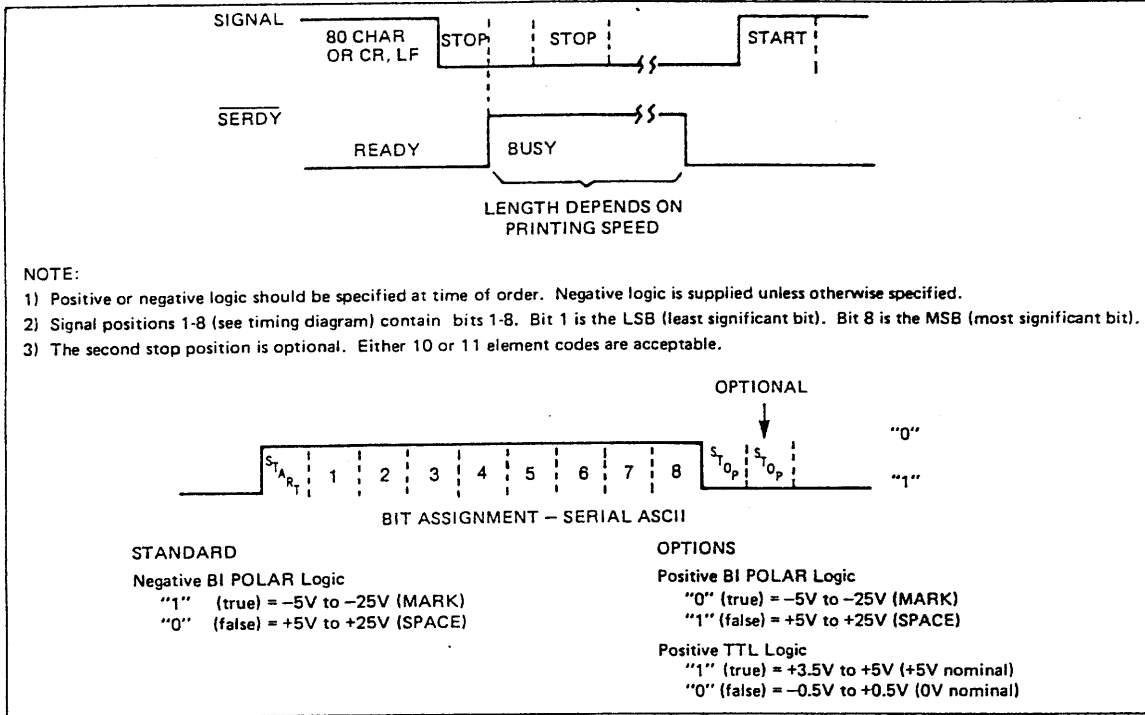

FIGURE 7. SERIAL SIGNAL INTERFACE DATA ENTRY TIMING
Data entered when $\overline{\text{SERDY}}$ is HIGH are lost. $\overline{\text{SERDY}}$ goes HIGH upon receipt of a full buffer on a Carriage Return (CR) or Line Feed (LF) code. Timing is shown in Figure 7. $\overline{\text{SERDY}}$ is connected to a normally unassigned pin on the EIA RS232C standard interface and the voltage levels are +5 volts for HIGH and 0 volts for LOW.
Serial inputs may be applied at rates from 110 to 9600 BPS synchronous by bit and asynchronous by character or byte. Each character or byte consists of 10 or 11 elements as shown in Figure 7. The first bit is the start bit which causes the clock in the printer to start and run at a predetermined rate. The rate is determined by the placement of a jumper wire on the Input Logic PC board. The rate can be set for 9600, 4800, 2400, 1200, 600, 300, 150, and 110 BPS. The maximum rate is 19,200 BPS on 2030 and 1110A models. The next eight bits contain the data code. The character code accepted for print data is ASCII. Plotting data are unweighted binary. The stop bits are ignored. Printing operations are as described earlier, except that remote control lines are not used. The print mode of operation is normally selected. Plotting mode may be selected by entering an ASCII control character, DC1, 021 (OCTAL). This control code must be transmitted as the first byte preceding plotting data. At the completion of the scan, the Versatec unit reverts to the printing mode. Printing or plotting at very slow rates may cause poor print quality due to over-development of the image. Therefore, printing serially at low rates, below 600 BPS, is not recommended. Likewise, plotting serially at less than 2400 BPS is not recommended.